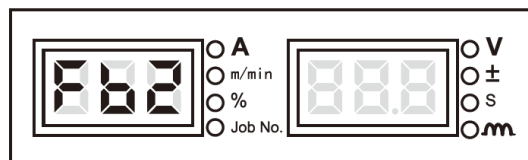

Figure 3-43 Screen for query about models
1. Enter the internal menu, adjust the knob on the panel of welding power source to **FB2** as shown in Figure 3-43.